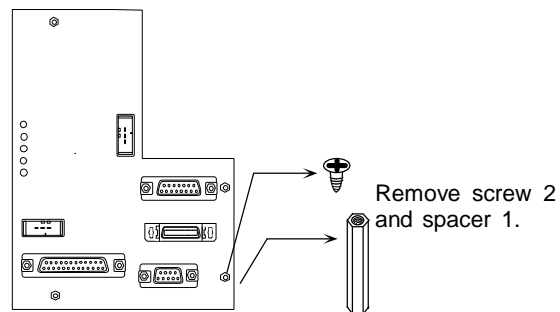

Fig. 2
2. Remove screw 2 of the relay card and spacer 1 (screw holes at both ends are female). (Fig. 2)